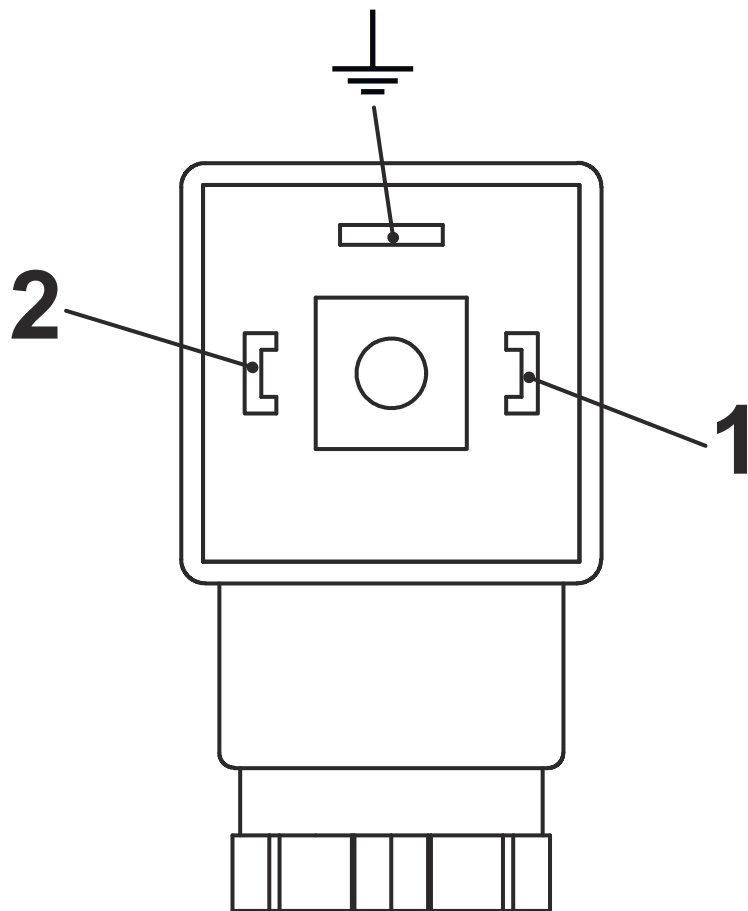
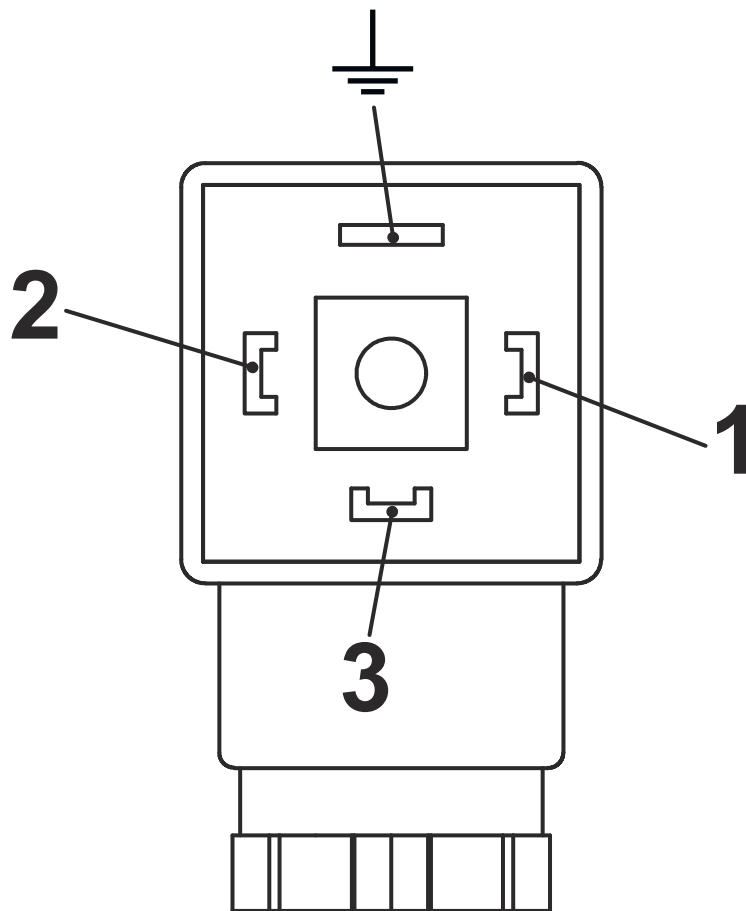

Fig. 26: Pin assignment, plug socket, normally-open contact (SG-15 with connector in compliance with EN 175301-803)
Fig. 27: Pin assignment, plug socket, change-over contact (SG-15 with connector in compliance with EN 175301-803)
- 6.** ➤ Make the connections as shown in the connecting diagram (*Fig. 26* and *Fig. 27*)